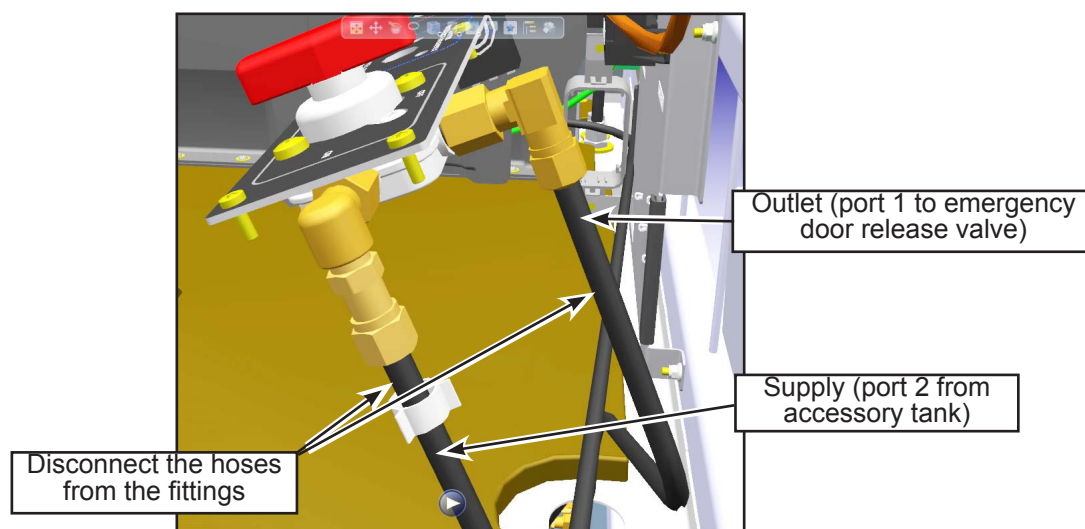

Figure 5 - Disconnect the Hoses From the Fittings
- 1.6. Pull the side panel towards the driver's seat to access the valve and fittings. Identify the hoses with labels and disconnect the hoses from the fittings (see Figure 5).